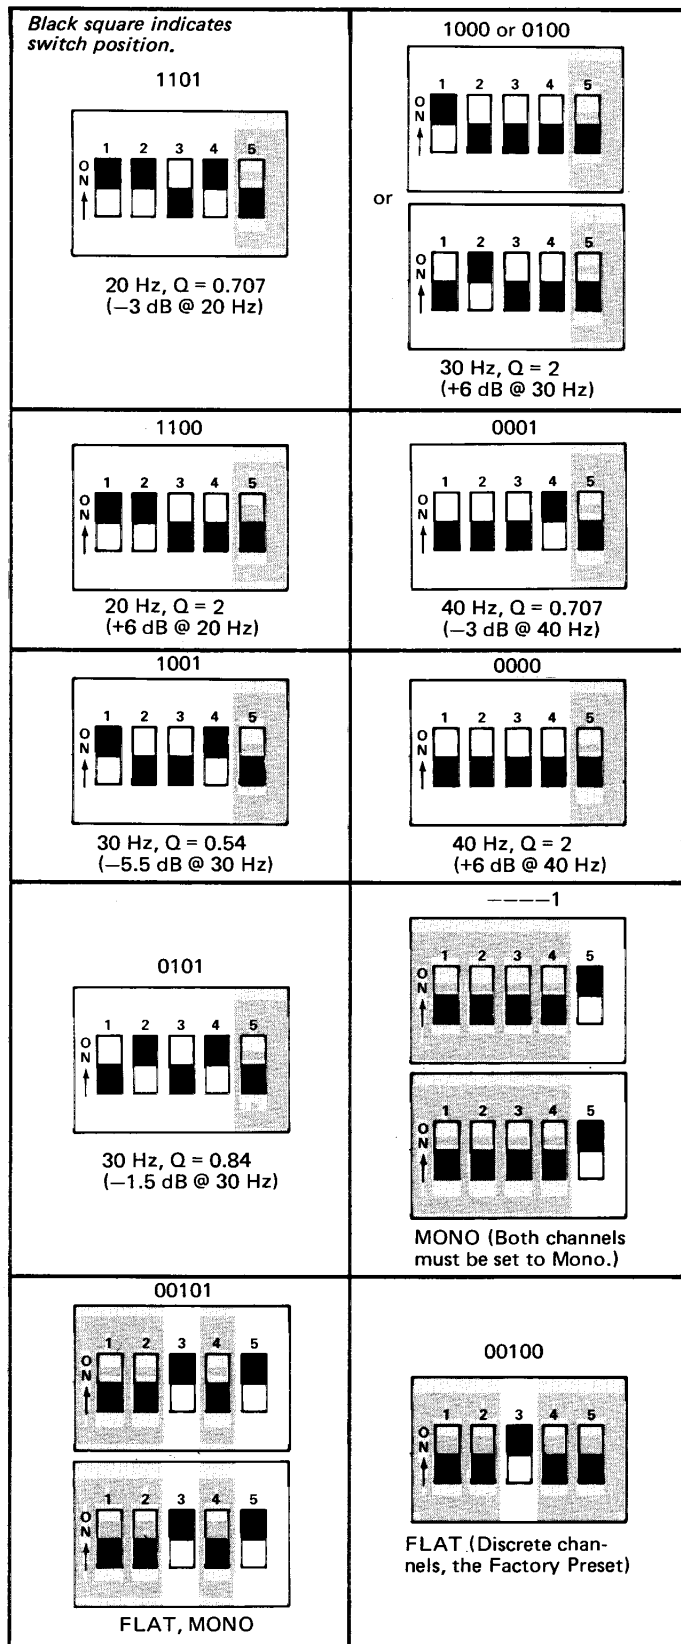

Figure 7 – DIP Switch Programming for the Various High-Pass Filter Characteristics, & Mono Mode
3. Set the DIP switch(es) according to the information in Figure 7.